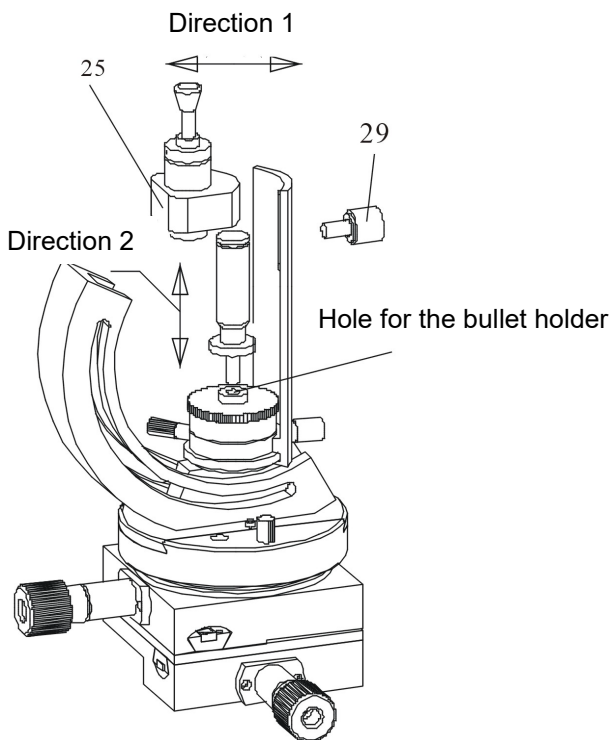

Figure 11
3. Viewing Samples (Figures 11 & 12)
To view trace on the bottom of the bullet shell, thread the wire brush holder with bullet shell into the base in an upright position (Figure 11).
To view trace on the side of the bullet shell, put (25) on the end of the bullet shell and secure its position by locking it in place with (29) (Figure 11).